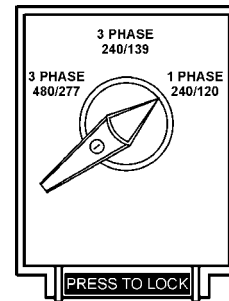

Figure 38. Voltage Selector Switch
- Place the **voltage selector switch** in the desired voltage position (Figure 38).